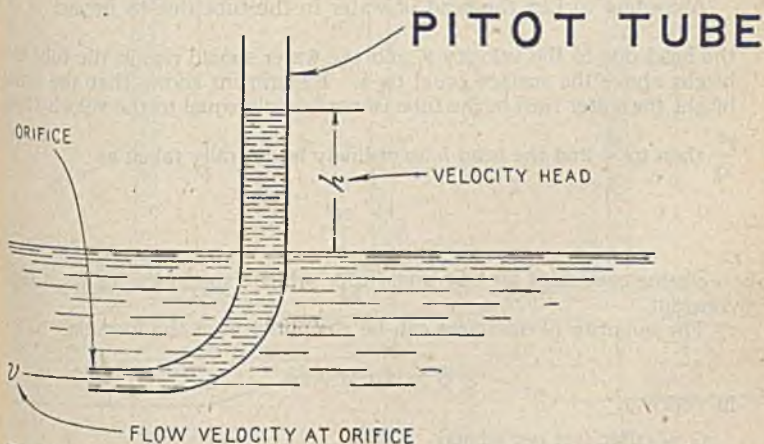

Fig. 26.—Elementary pitot tube showing essentials and placement in the water whose flow is to be measured.
**Pitot Tube Formula.**—The simplest form of Pitot tube as proposed by Pitot consists of a glass tube with a small orifice at one end which may be turned to receiving the impact of the water flow as in fig. 26.